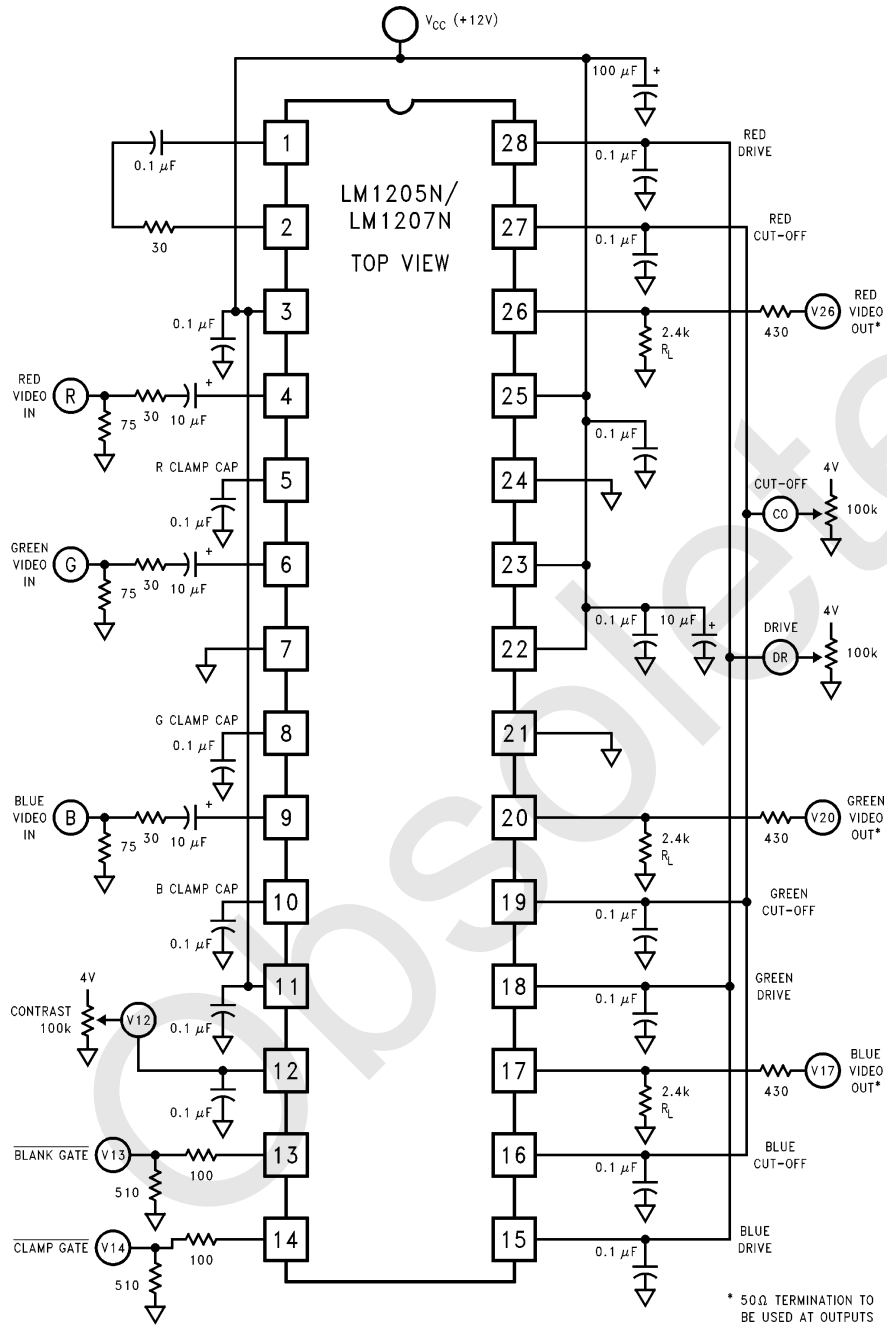

**FIGURE 3. LM1205N/LM1207N AC Test Circuit**
**AC Electrical Characteristics** See AC Test Circuit (*Figure 3*),  $T_A = 25^\circ\text{C}$ ;  $V_{CC1} = V_{CC2} = 12\text{V}$ . Manually adjust Video Output pins 17, 20, and 26 to 4V DC for the AC test unless otherwise stated. (Note 14)